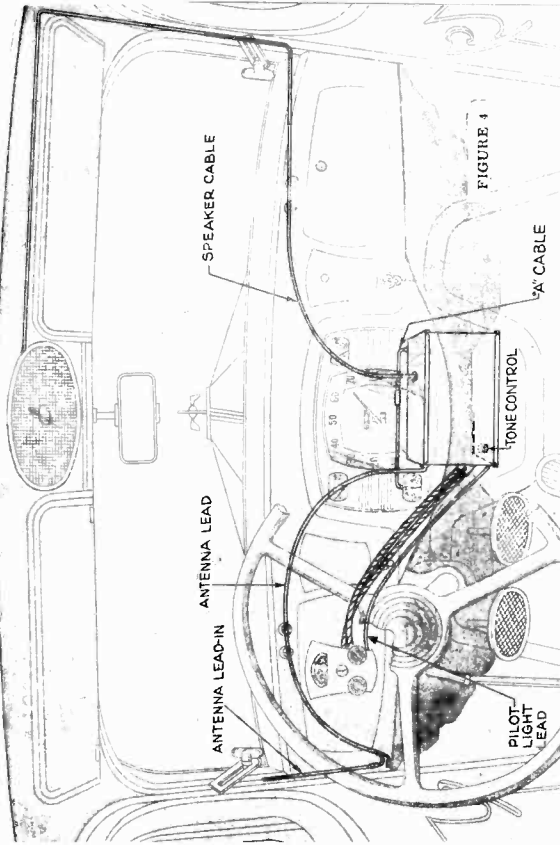

FIGURE 4
**"A" Or Battery Cable (See Figure 4)**
Determine the location of the metal frame for mounting the speaker in the center above the windshield. (See Fig. 4) This can be felt thru the headlining. Then slit the headlining vertically and horizontally inside the frame. Carefully cut the lining from the bottom of the frame. This operation will make a circular hole two inches smaller in diameter than the frame.